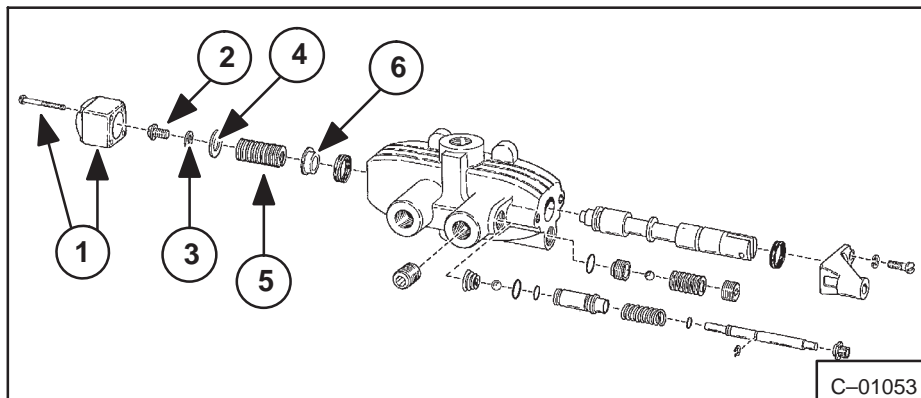

Fig. 4-23 Variable Speed Valve Parts
12. Install a new front seal, keep the U cup side of the seal toward valve body (Fig. 4-23).
1. Remove four bolts from valve spring cap (Fig. 4-23, Item 1).
2. Remove screw, lock washer, flat washer, spring and stop collar from end of spool (Fig. 4-23, Items 2, 3, 4, 5 & 6).
12. Install collar, spring, washers and screw. Tighten screw (Fig. 4-23, Items 2, 3, 4, 5 & 6).
14. Install cap and four bolts (Fig. 4-23, Item 1).